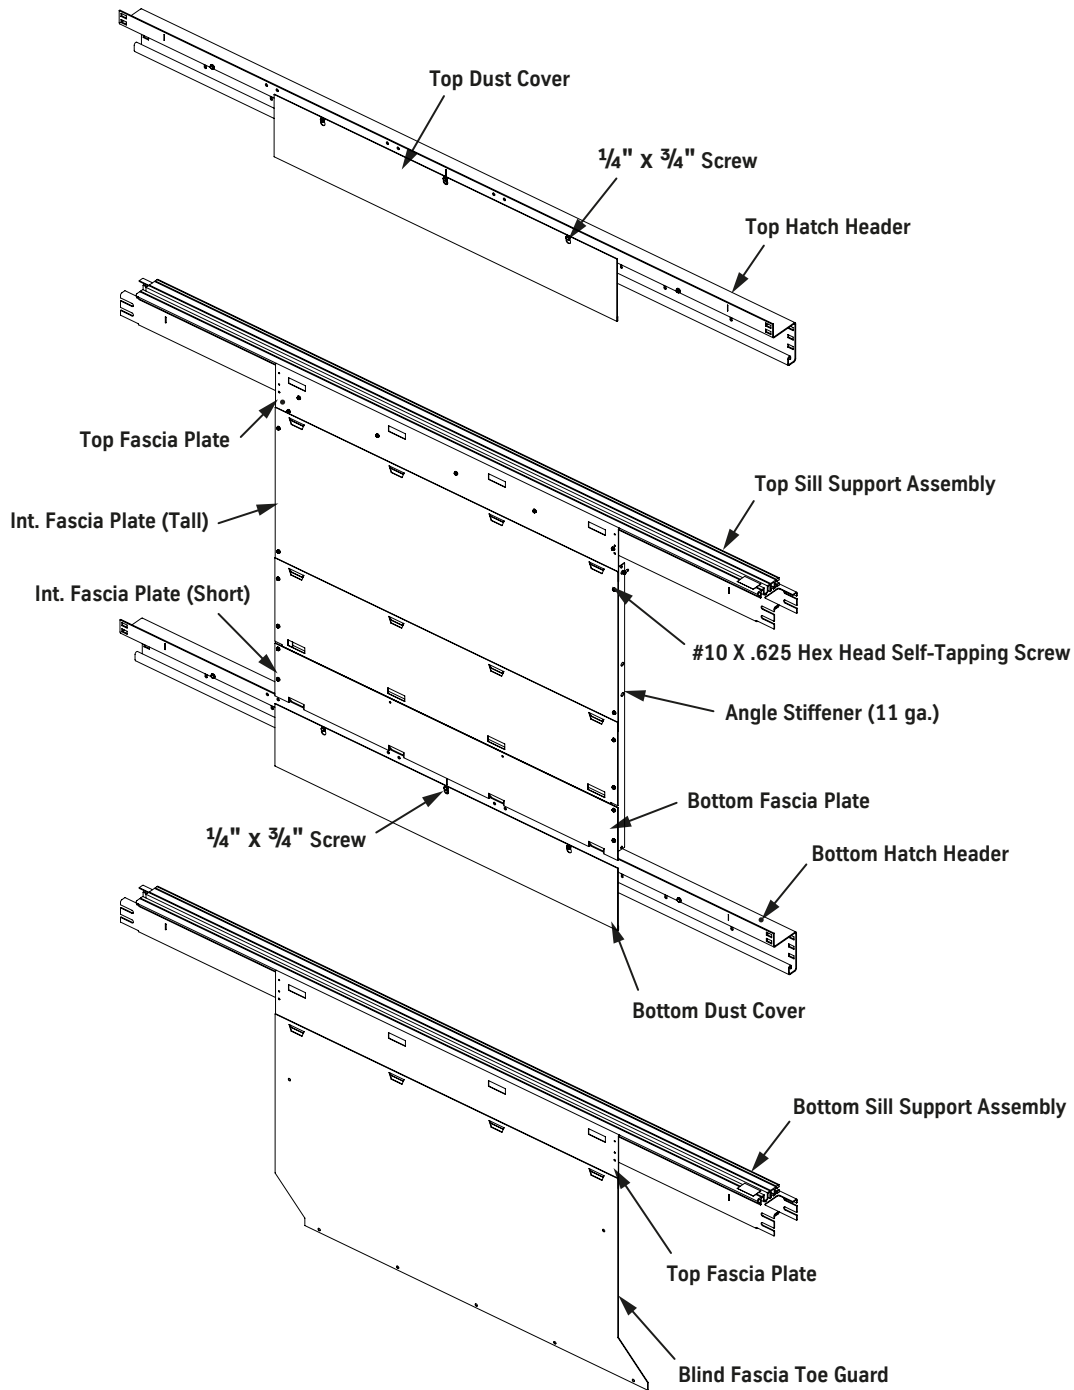

Figure 22- Install Fascia Plates, Dust Covers, and Toe Guards (1 of 3)
2. Center a top fascia plate in the opening, and hook the fascia plate onto the hoistway sill of the top landing. See Figure 22 on page 7-24 through Figure 24 on page 7-26.